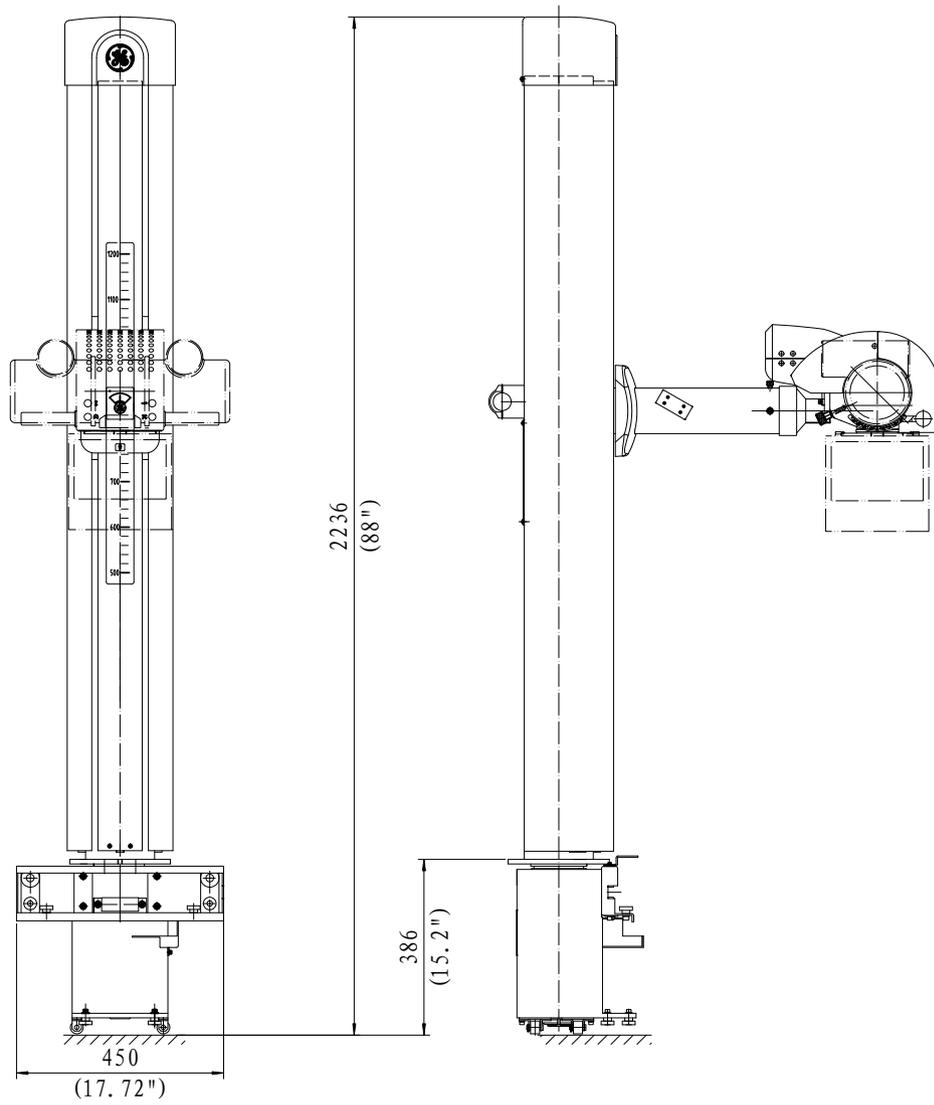

Figure 6-9 Standard Tube Stand
- Integrated Tube Stand - Figure 6-9.